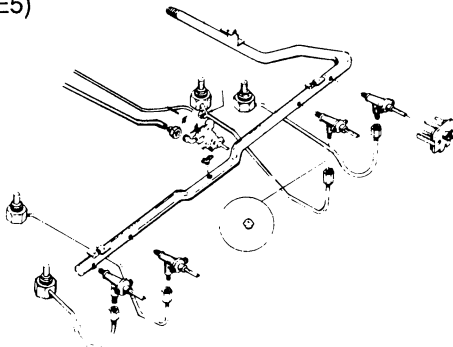

Figure E5
- Remove the top burner valves. On Systems A and B remove the thermostat and pilot tubes. (See Figure E5)